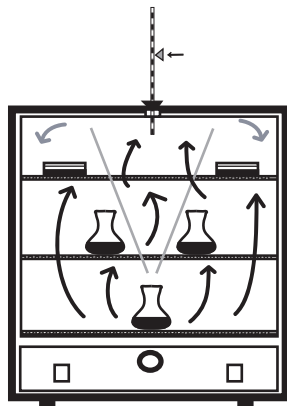

FIG. 6
- Stagger articles from those on lower shelves in a "V" formation. (FIG. 6 ON PG. 4)